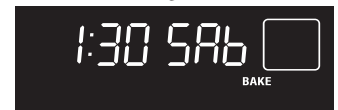

Fig. 3
6. At the same time press and hold both the and pads for at least 3 seconds. The control will beep and **SAb** will appear in the display (See Fig. 3). Once **SAb** appears in the display the oven control will no longer beep or display any